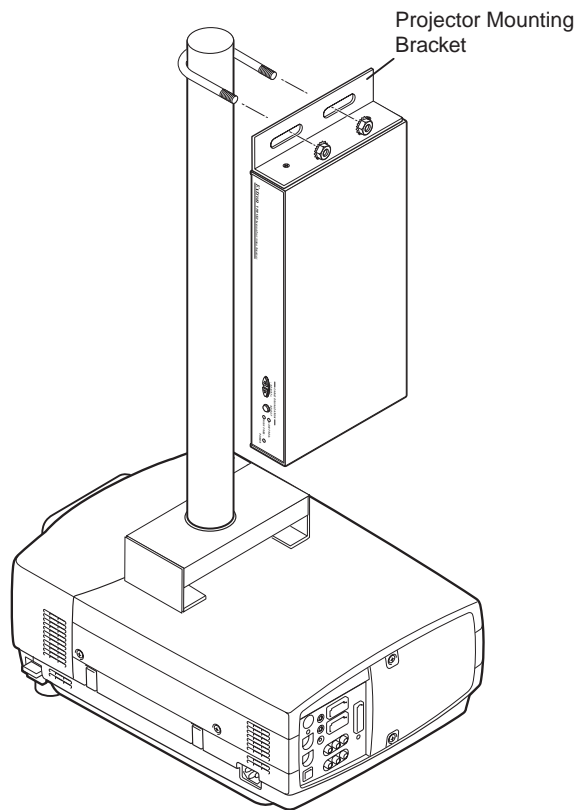

Figure 2-2 — Projector mounting the receiver
3. Place a locally-obtained U-bolt around the projector pole and through the slotted holes in the bracket (figure 2-2). Secure the bracket in place with locally-obtained bolts.